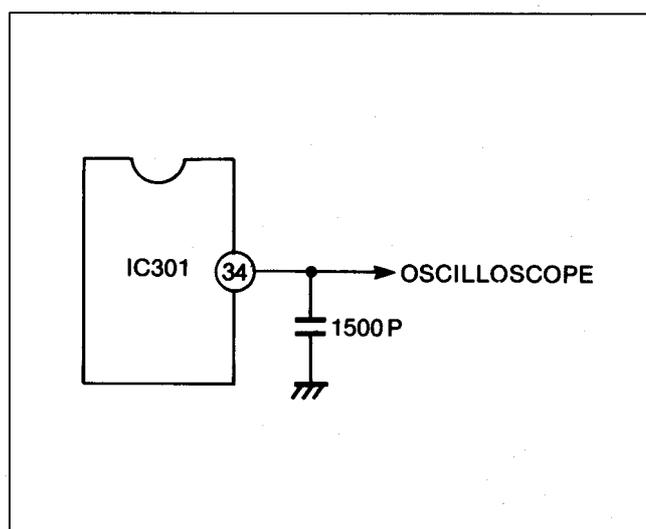

Fig. E18
- Note: 1. Connect the capacitor (1500pF) between IC301-34 and GND as shown in Fig. E18.